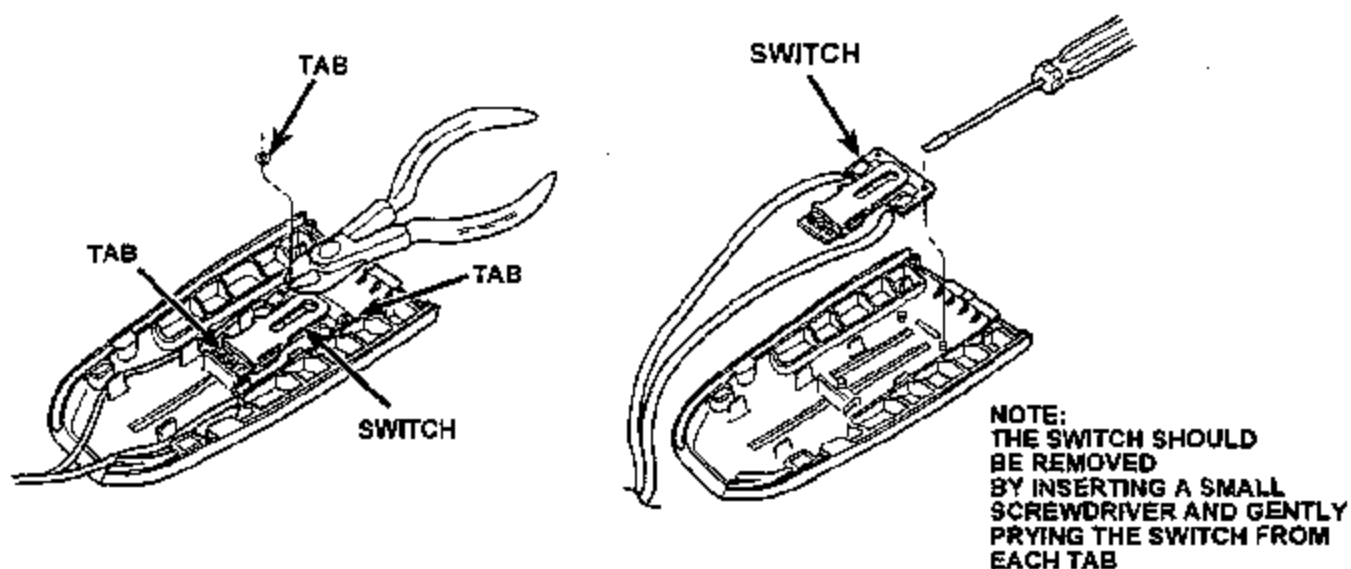

Figure 5
7. **Driver's Side Buckle Only:** Remove the heads of the three plastic tabs which secure the seat belt switch to the lower cover using small side cutters or a razor blade (Figure 5).
8. **Driver's Side Buckle Only:** Carefully remove the switch from the mounting tabs by using a small screwdriver and gently prying the switch from each tab (Figure 5). Discard the lower seat belt buckle cover.